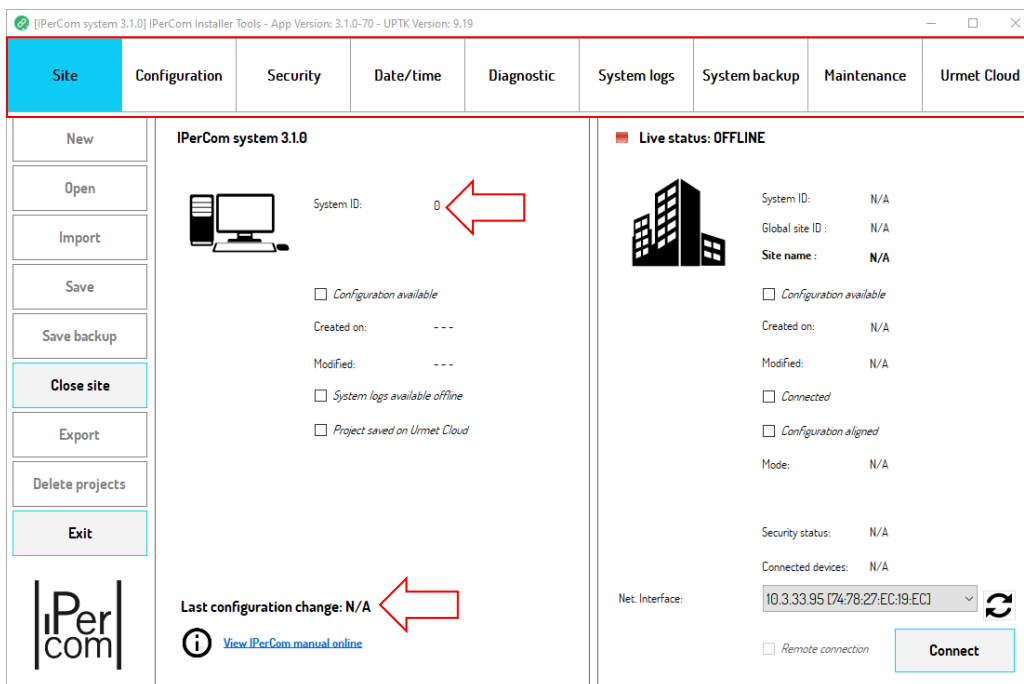

Figure 58: project created ("Site" tab)
**At this stage the name of the project displayed at the top of the left panel of *IPerCom Installer Tools* (see Figure 58) is replaced by the name of the site, as this field is available (it was filled in following the creation and saving of the configuration).**